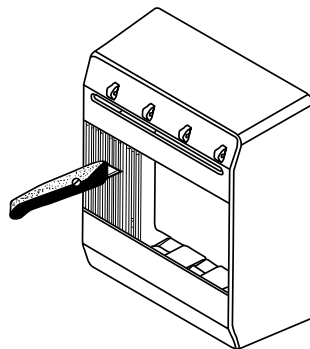

Figure 5
1. Remove cut-out on shroud if necessary to accommodate the number of circuit breakers installed as shown in figure 5. The cut-outs for the circuit breaker wires must also be removed as required.